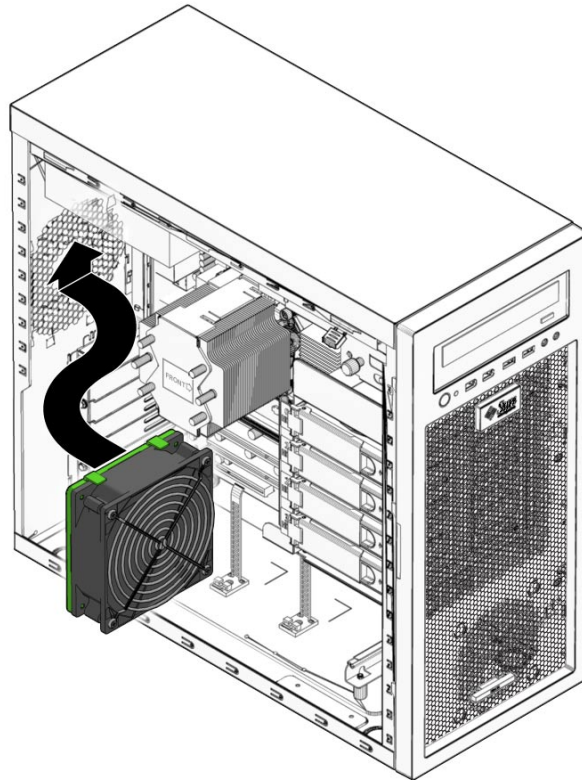

FIGURE 3–25 Installing the System Fan
- 14 **Press the fan against the back panel and slide the fan upward until the chassis retaining clips click into their locked position (see Figure 3–25).**